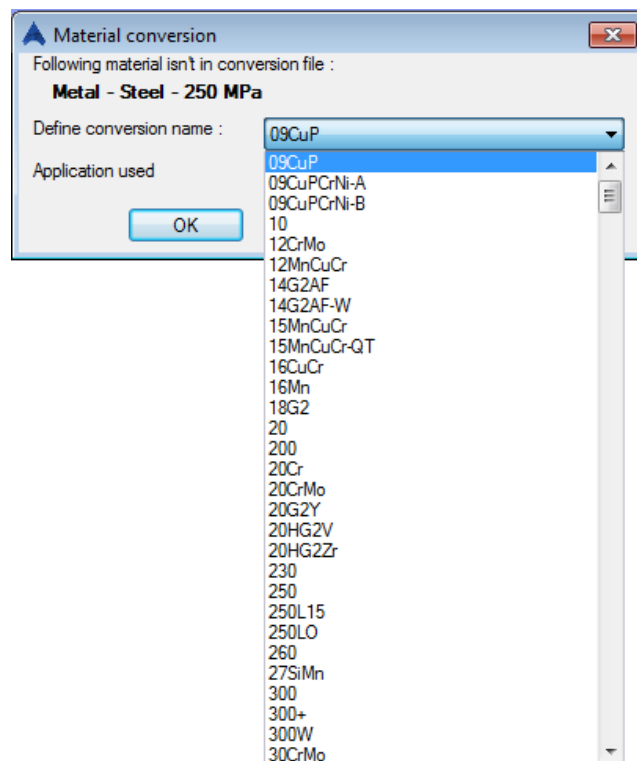

FIGURE 9: THE **MATERIAL CONVERSION** DIALOG BOX
3. In the **Open** dialog box, browse and select the SMLX file that was saved from Autodesk Revit. If mapping of structure members or material is required, a dialog box will be displayed, as shown in Figure 9.